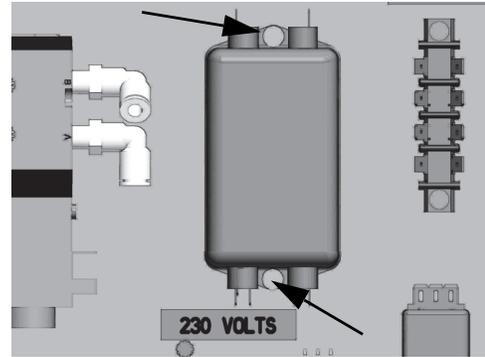

Figure 60.
6. Disconnect the wires connected to Electrical filter and remove the two screws as shown in Figure 60.